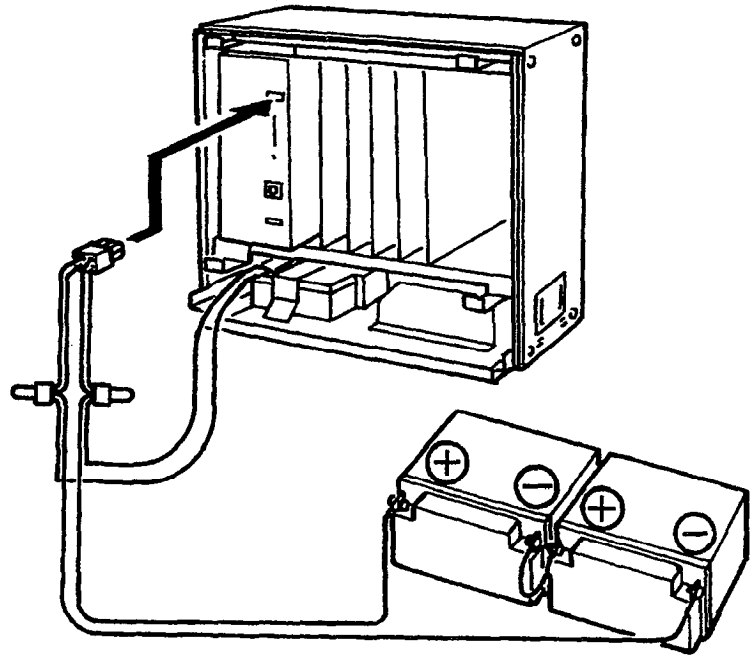

Figure 3-36 Connecting the Batteries to the Power Supply
4. Connect the cord to the DC IN on the power supply unit of the KSU. Refer to Figure 3-36 - Connecting the Batteries to the Power Supply.